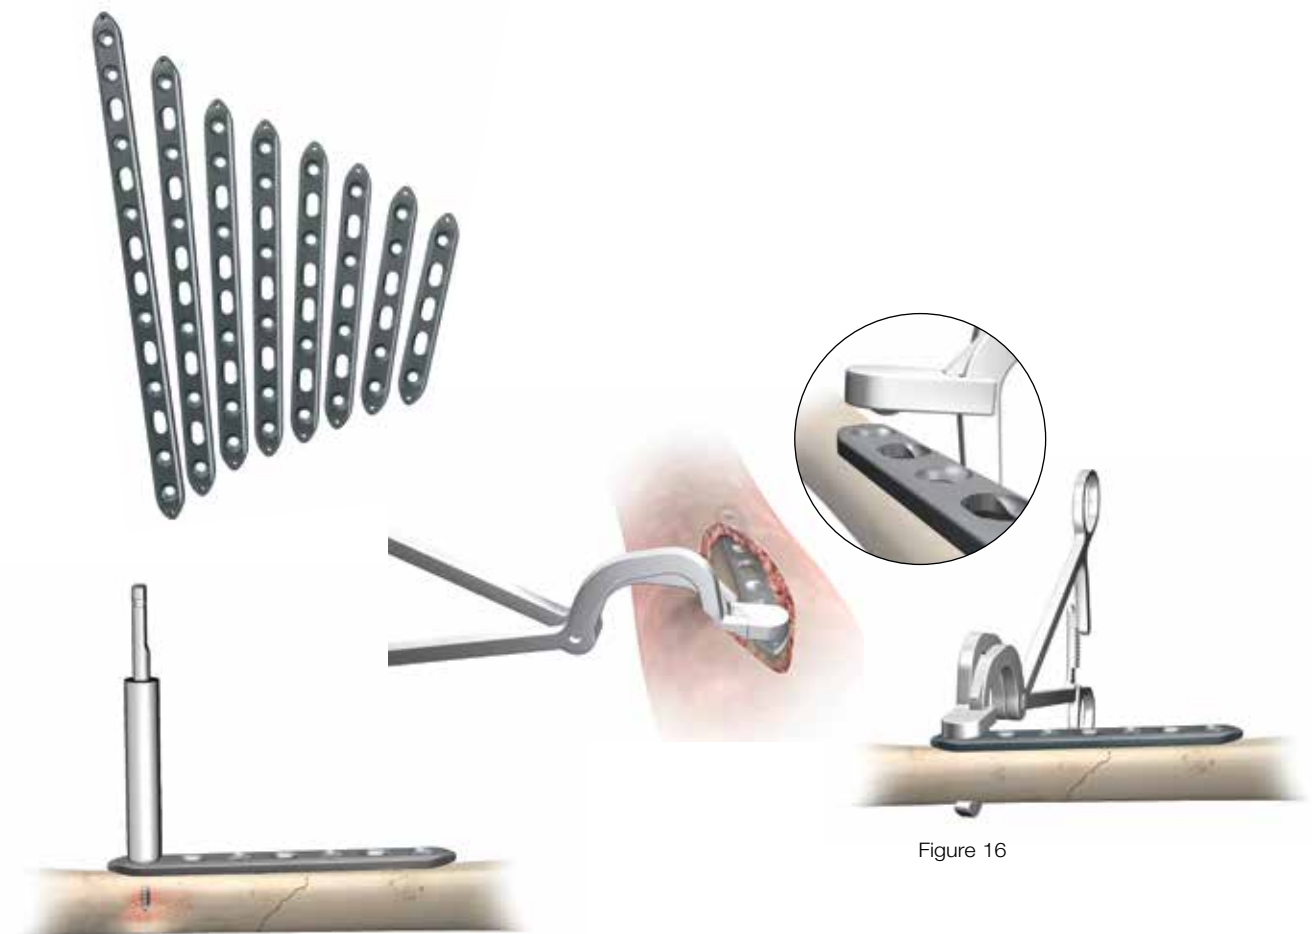

Figure 16
**Use of the Plate Bone Forceps (2142-76-000)** Slide the serrated foot of one limb of the clamp onto the under-surface of the bone while inserting the protrusion of the other limb into a plate hole. The "c" shape of the clamp minimizes soft tissue damage (Figure 16).